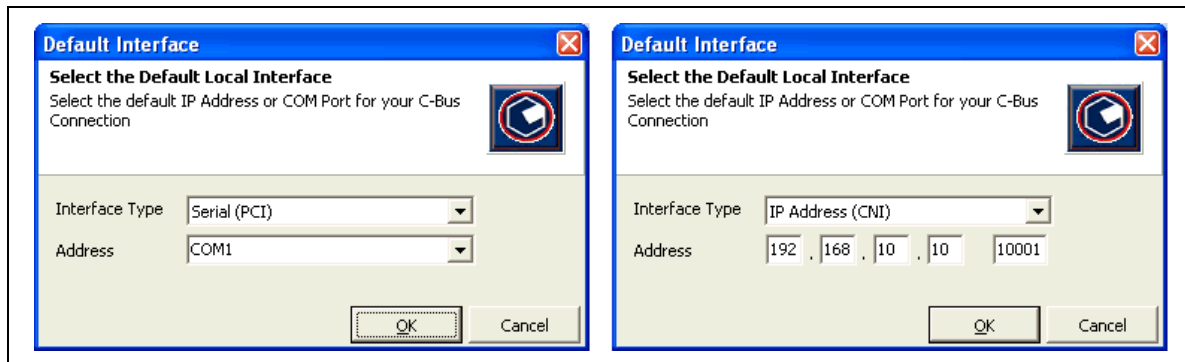

Figure 19
3) You need to select an interface through which to communicate between your PC and the C-Bus network (Figure 19). Select either: